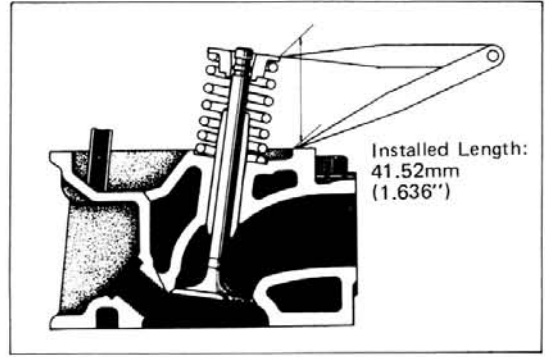

Fig. 1-26 Measuring Spring Installed Length
1. Measure the installed length of the valve spring as shown in figure 1-26. If the installed length exceeds approximately 2 mm, check the valve seat depth, and check the valve spring retainer and the retainer locks for wear. If worn, replace as necessary. The limit of the valve seat depth is 2 mm.